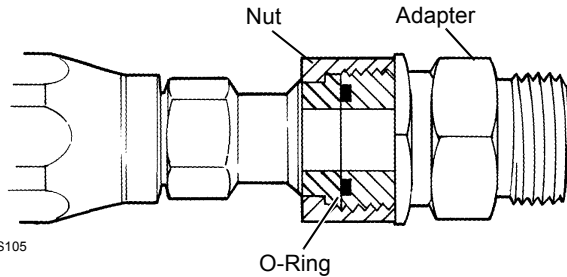

Figure 2-21. ORS Connection
1. Lubricate and install the O-ring into the adapter groove (Figure 2-21).